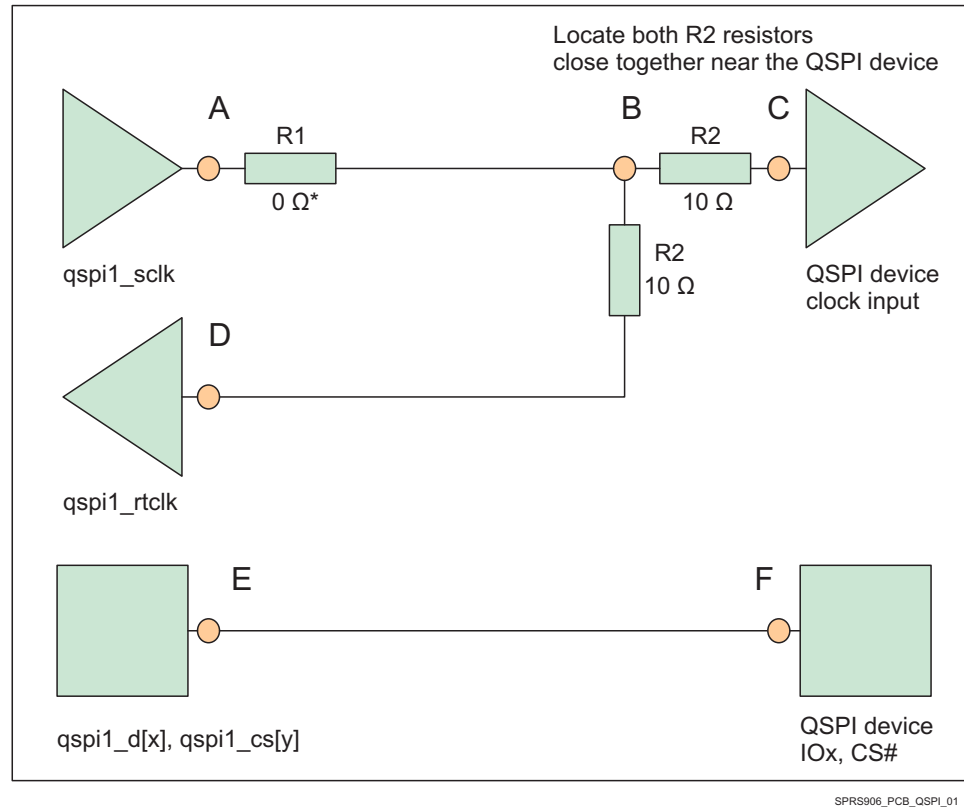

图 7-30. QSPI Interface High Level Schematic
- 50 Ω PCB routing is recommended along with series terminations, as shown in 图 7-30.